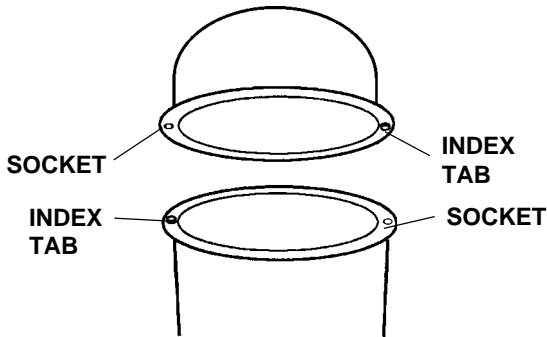

FIG. 3
Pour sand into the filter tank, distributing evenly. Stop filling about 1/2" from the top flange. Set the remainder of required sand aside for now. Clean off any sand that might be on the flange or in the O-Ring groove before installing the tank O-Ring (22) into O-Ring groove. Remove the bag and rubber band on the center pipe. Replace cover on tank aligning index tabs and sockets. Note: Index tabs must be aligned with sockets, or tank cover will not seal properly (See Fig. 3).